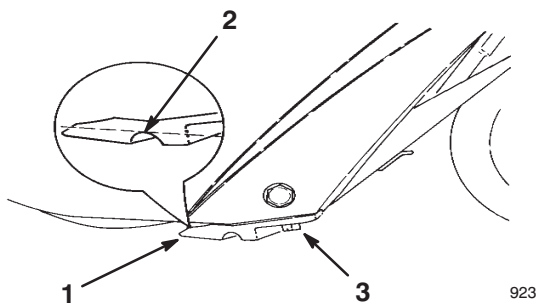

Figure 7
Before each season, inspect the scraper for wear. If the thickness from the top of the wear indicator groove to the bottom of the scraper is less than 1/16 inch (1.6 mm) or there is no longer a wear indicator groove, replace the scraper (Fig. 7).
4. Remove the three screws that hold the old scraper in place (Fig. 7).